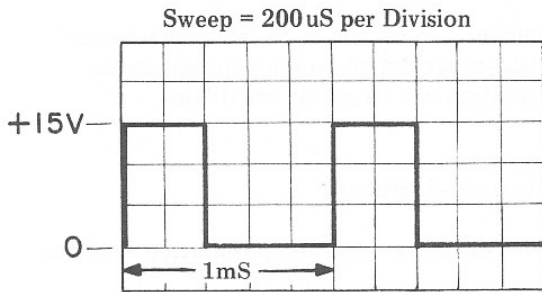

Fig. 7 - Determining Frequency
- 2) In Figure 7, a cycle of the waveform takes five divisions. The sweep is set for 200 microseconds per division. The time required for a single cycle is $200\mu\text{S} \times 5 \text{ divisions} = 1000 \text{ microseconds} = 1 \text{ millisecond} = .001 \text{ second}$.